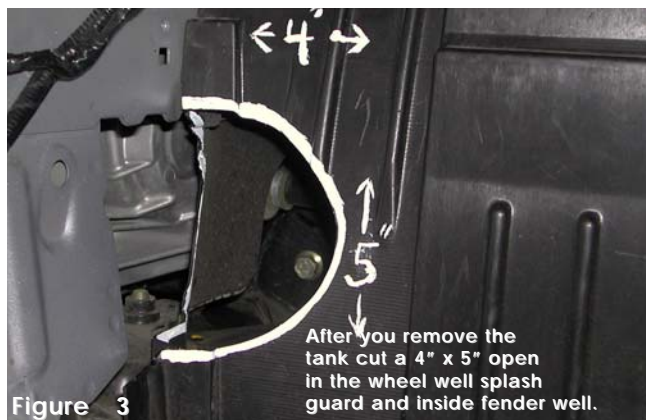

Figure 3
4. Cut a 4" x 5" opening on both sides of the wheel well splash guard. Slip the cold air intake in and out of the opening to determine the best size opening. A utility knife or cardboard cutter will be required. (See fig. 3)